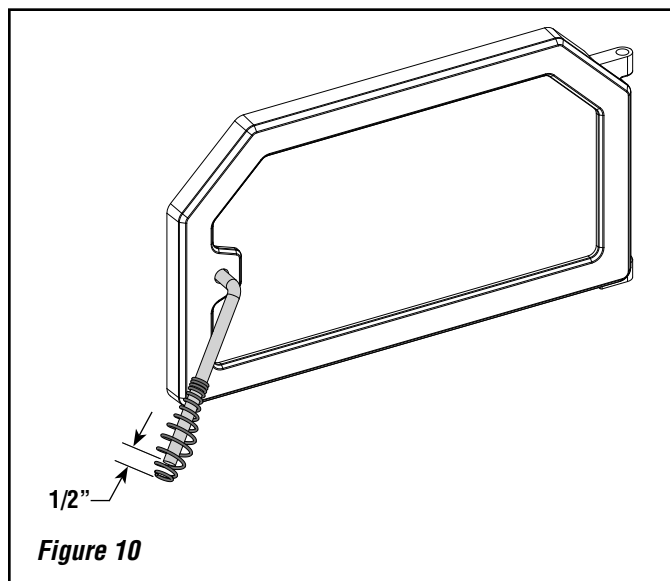

Figure 10
Step 6. Reinstall Spring Handle - Slide the spring handle over the handle rod by pushing up and turning the spring handle clockwise (see **Figure 10**). Make sure to leave a 1/2 inch gap between the end of the handle rod and the bottom of the spring handle. This will also allow for a 1/2 inch of play side to side. **Installing the spring handle too far, where there is no side to side play, will result in the spring handle becoming VERY HOT to the touch.**